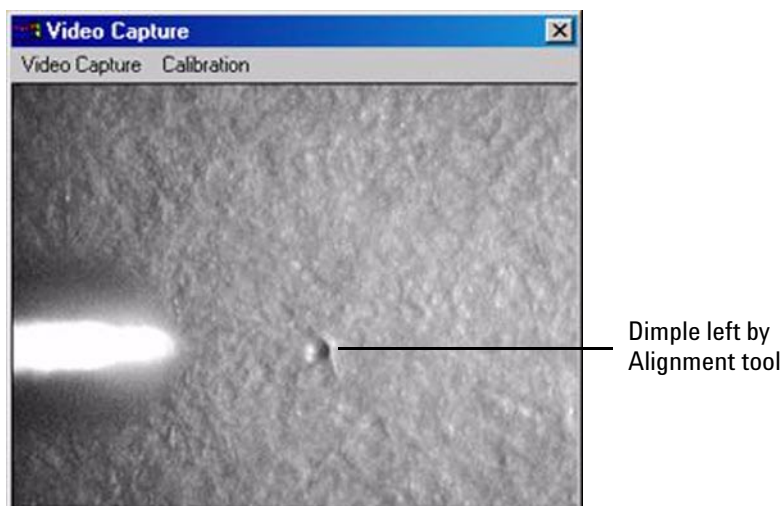

Figure 61 Dimple in paper target plate
- 9 A small dimple left by the capillary Alignment Tool should be visible on the plate video image. See the example in Figure 61.